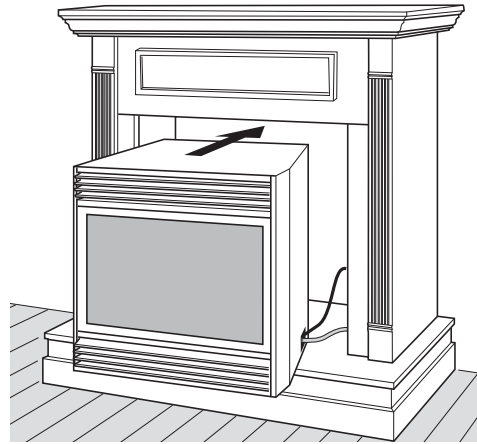
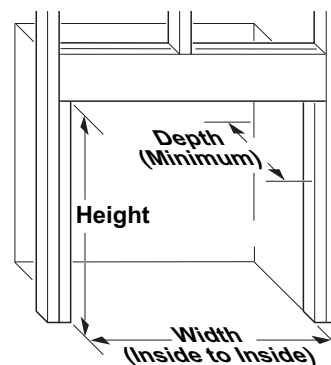

Figure 12 - Inserting Fireplace Into Cabinet Mantel
Figure 13 - Rough Opening for Installing in Wall
1. Frame in rough opening. Use dimensions shown in **Figure 13** for the rough opening. If installing in a corner, use dimensions shown in **Figure 14, Figure 12**, for the rough opening.